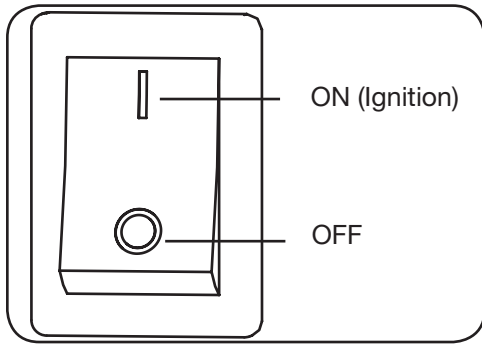

Figure 3-3
- If equipped with an emergency stop control switch, make sure that the emergency stop control is set to the ON position, represented by the solid line while attempting to start the engine. See Figure 3-3.
To stop the running engine using the emergency stop control, move the switch to the OFF position, represented by the circle. See Figure 3-3.